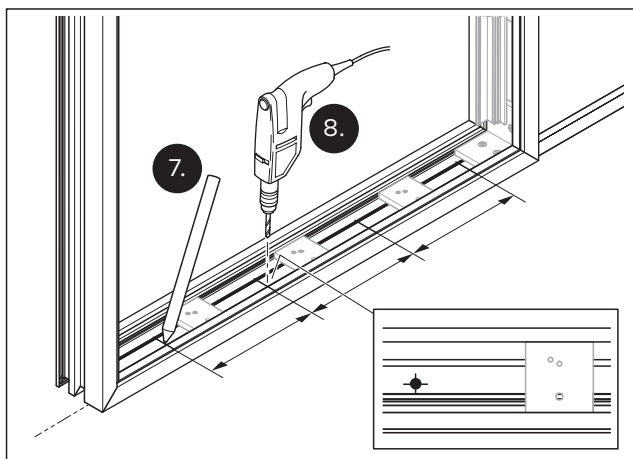

Fig. 23 Drill at least 3 holes per meter through the acoustic element frame into the ground
7. Mark at least 3 holes per meter in the lower part of the acoustic element frame (Fig. 23).